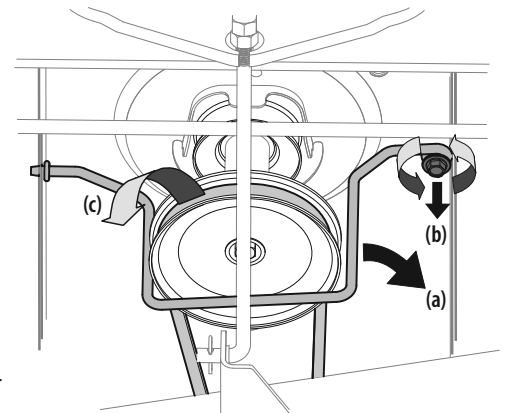

Figure 29
3. Remove the belt-keeper rod (a), from around the tractor's engine pulley, by removing the self-tapping screw (b) that secures it. See Figure 29.
4. Remove the belt (c) from around the tractor's engine pulley and idler pulley(s). See Figure 29.